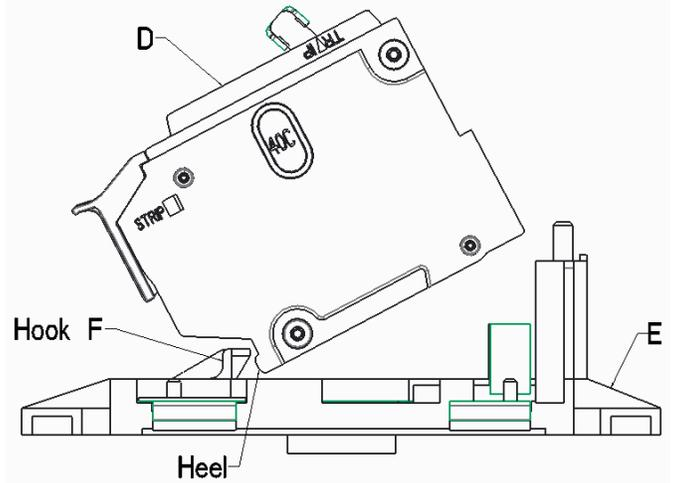

Figure 2: Plug the breaker onto the conversion kit base.
2. Plug the main circuit breaker (D) in Figure 2, onto the TQMHO00 base (E), ensuring that the breaker heel is engaged under the base hook (F).